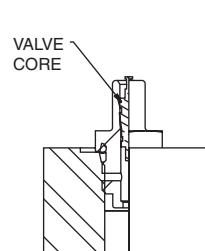
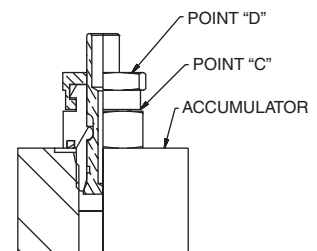

FIGURE 5
FIGURE 6
Make sure nitrogen supply is shut off. Attach hose to nitrogen bottle. If accumulator has a gas valve as shown in Figure 5 follow steps A through L and skip steps F and J. If accumulator has a gas valve as shown in Figure 6, follow steps A through L and skip steps E and I.
Accumulator having gas valve as per Figure 5.
- (A) Remove gas valve guard and gas valve cap.
- (B) Back gas chuck "T" handle all the way out (counter clockwise) before attaching charging assembly to accumulator gas valve.
- (C) Close bleed valve.
- (D) Making sure not to loop or twist the hose, attach swivel nut to gas valve and tighten (10-15 in. lb.) (11.5-17 cm kg).
- (E) Turn gas chuck "T" handle until the gauge starts showing the pressure in the accumulator. Do not turn the "T" handle all the way down, as it will damage the valve core.
- (F) **For gas valves as shown in Figure 6**, hold gas valve at point "C" with one (1) wrench while unscrewing hex nut at point "D" with a second wrench. This will open the poppet inside the gas valve. Note: Three (3) turns will fully open the valve.
- (G) Crack open nitrogen bottle valve and **slowly** fill accumulator. Shut off when gauge indicates desired pre-charge.
- (J) **For gas valves as shown in Figure 6**, with a wrench, tighten hex nut at point "D" to close internal poppet (5-8 ft. lbs.) (5.7-9.2 cm kg).
- (K) Hold gas valve to keep from turning, loosen swivel nut, remove assembly. Check for precharge leak using a common leak reactant.
- (L) Replace gas valve cap (10-15 in. lbs.) (11.5-17 cm kg) and valve guard. (Gas valve cap serves as a secondary seal.)
Accumulators having gas valve as per Figure 5.
Accumulators having gas valve as per Figure 6.
For accumulators having gas valve as shown in Figure 5, attach gauging assembly as shown in Figure 2 following Steps 1 through 5. Then, open bleed valve until all gas pre-charge is relieved from accumulator. Then remove gauging assembly and gas valve.
For accumulators having gas valve as shown in Figure 6, remove gas valve guard and gas valve cap. Then hold valve at point "C" with one (1) wrench while unscrewing hex nut at point "D" with a second wrench. Wait until all gas pre-charge is relieved from the accumulator and then remove gas valve.